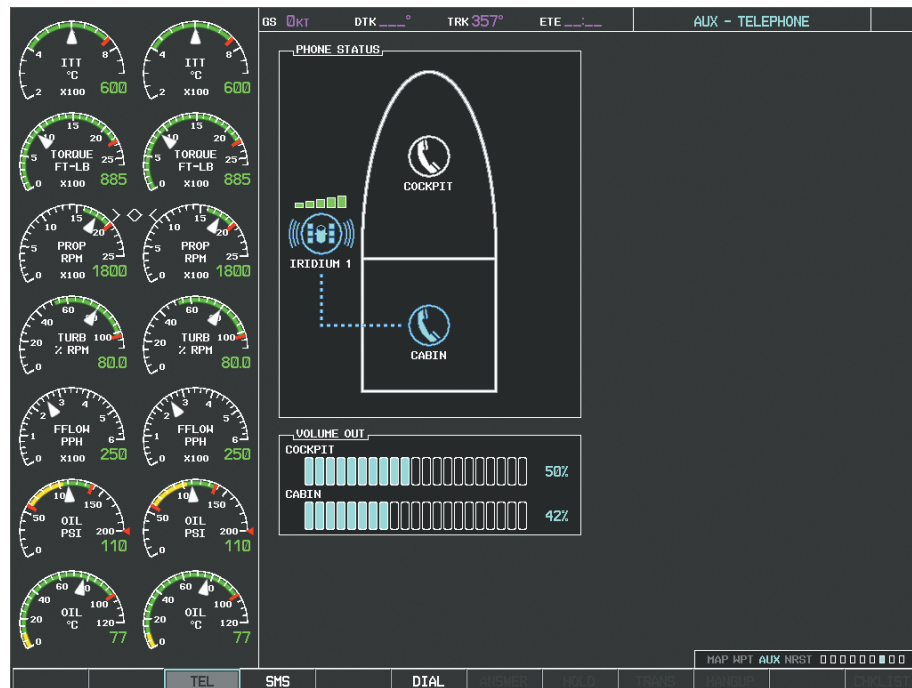

Figure 8-92 Call Transfer to an External Phone
- 5) Press the **ENT** Key again to place the call as shown in Figure 8-92.